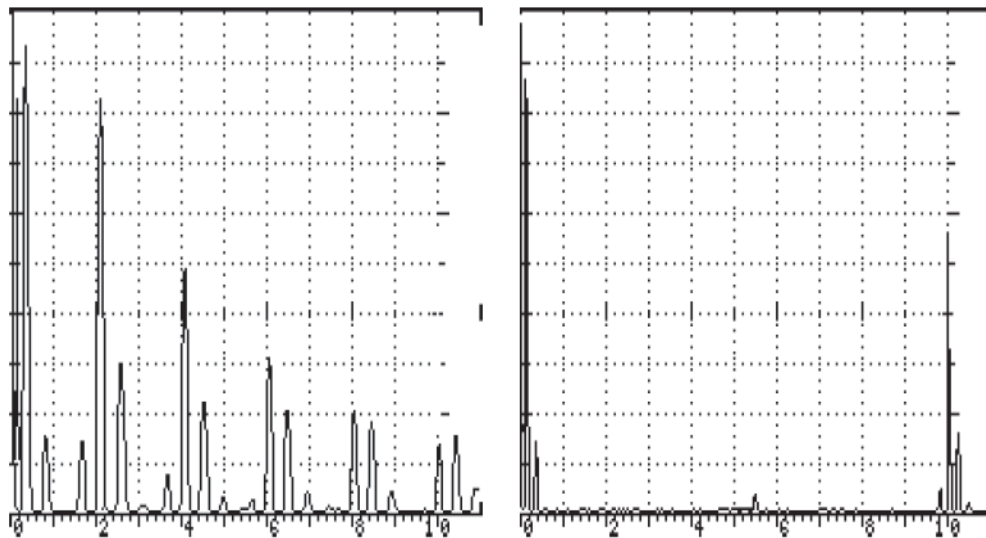

Figure 5-1: Multiple Echoes From 0.100 Step and Figure 5-2: Echo From 0.500 Step Block
6. Adjust Gain by pressing the RANGE menu key, then GAIN *menu soft key*, and rotate the SmartKnob™ to increase the first echo amplitude to approximately 80% of full screen height (refer to **Figure 5-1**).